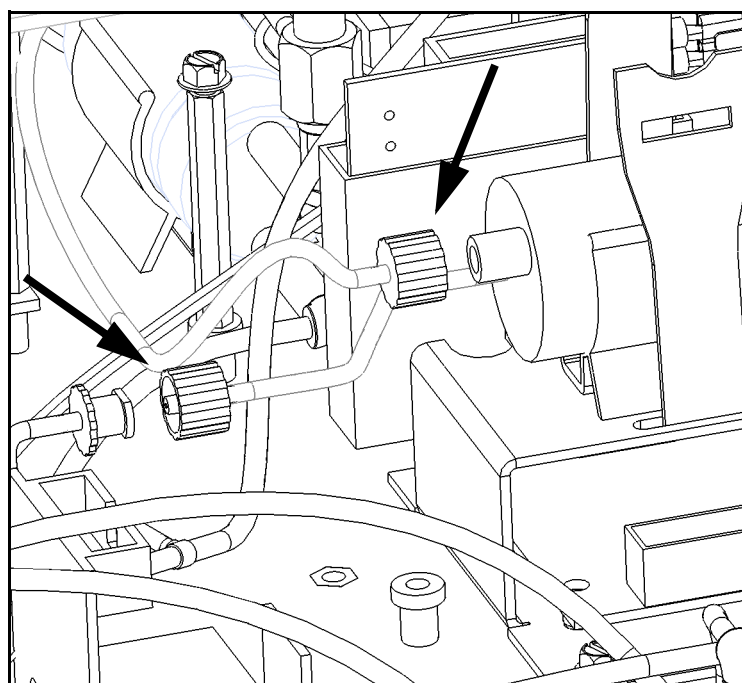

Figure 3-11 Luer Fittings
5. Disconnect the luer fittings (Figure 3-11).